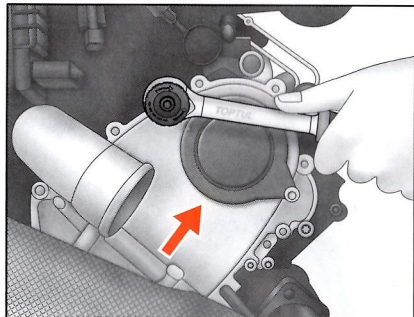

Fig.1
1. Remove the RH Bank camshaft sprocket access cover. (Fig.1)